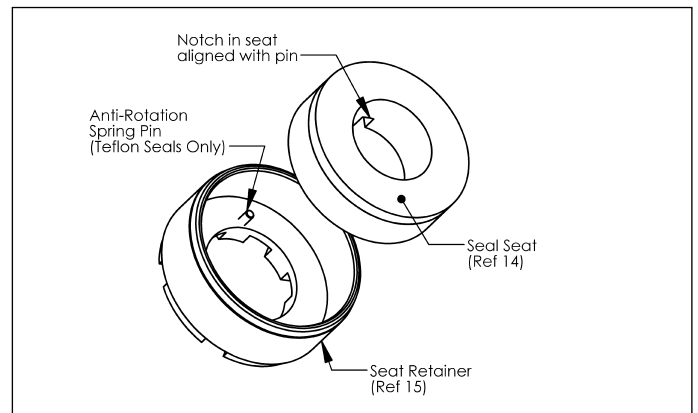

Figure 9 - Seal Seat and Retainer Assembly
- d. Press seal seat into the seal retainer (See Figure 9) using water as a lubricant. The white shiny ceramic face should be visible after pressing the seal into the seal retainer. It is recommended to use a cardboard washer or wood dowel when pushing the seal seat into the seal seat retainer. Any scratches, dirt, or fingerprints on the carbon ceramic faces will cause the seal to leak.
NOTE: When installing the seat for the Teflon seal, an anti-rotation pin must be installed into the seat retainer. The anti-rotation pin (Ref. No 20) is a small spring pin which must be installed into the seat retainer in the small hole. About 1/8" to 3/16" of the pin should be exposed inside of the seat retainer (Figure 9). The seal seat is then installed into the seat retainer.